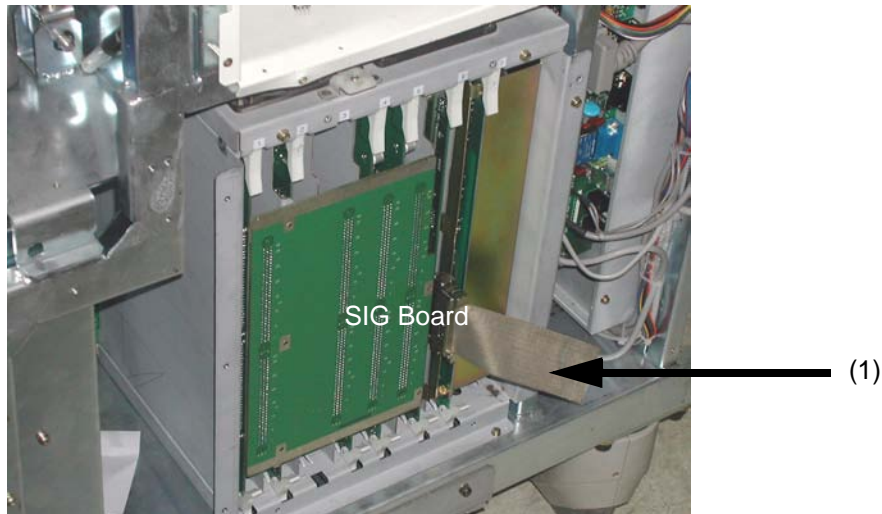

Figure 8-86 Disconnecting Cable
- 6.) Disconnect one connector (1) if removing the FEC Assy. Otherwise skip this step. Refer to Figure 8-86.